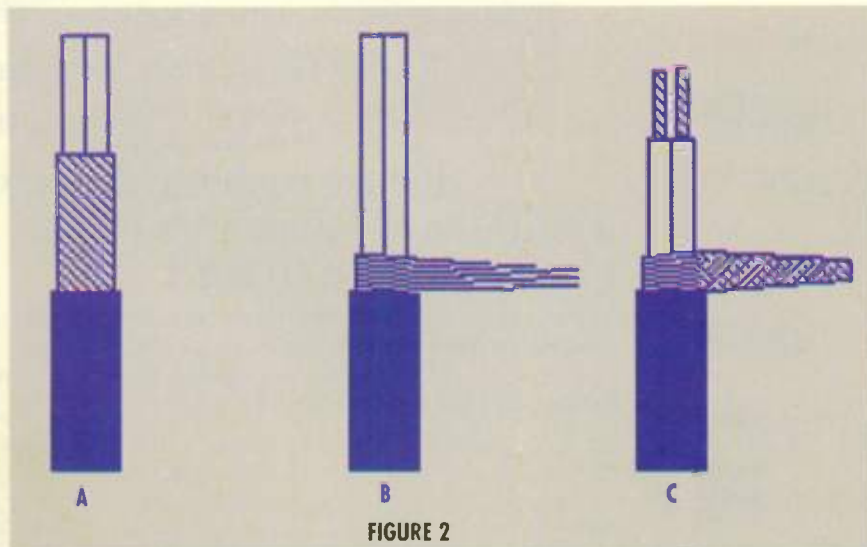

FIGURE 2
There are two main types of shield: spiral wrap, and braided. Spiral wrap is the easiest to use; fig. 2 shows the basic process of preparing a spiral wrap cable. (A) shows the outer insulation stripped off to expose the shield and the two inner conductors. In (B), the shield has been unwrapped to expose the two inner conductors. (C) shows properly prepared cable. The